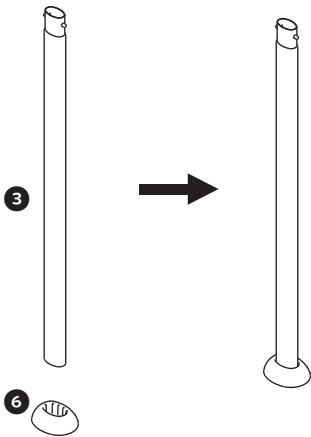

Figure 3
8. Insert the Vertical Legs (3) into the Leg Caps (6) (see Figure 3).